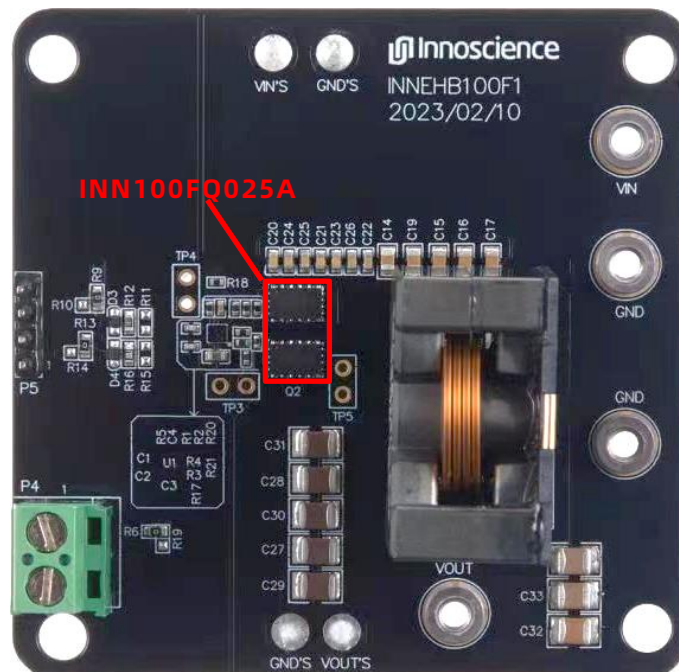

Figure 2 Top view of INNEHB100F1
The top and bottom views of the INNEHB100F1 board are shown in Figure 2 and Figure 3.
In Buck mode, the wiring diagrams of INNEHB100F1 with single PWM input and dual PWM input are shown in **Appendix Figure 2** and **Appendix Figure 3**, respectively.
Appendix Figure 2 Single-PWM input Buck mode
- 2) Connect the DC voltage source to V_{IN} terminal and common ground **GND** terminal, as shown in **Appendix Figure 2**(Pay attention to the polarity).